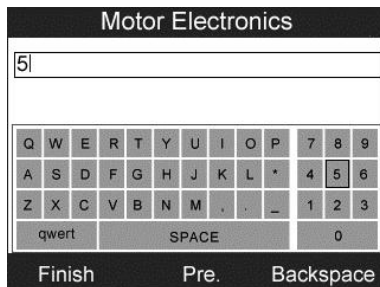

Figure 13.15
**[Show]**: Press this key to pop up a soft keyboard to facilitate your input. (Figure 13.15)